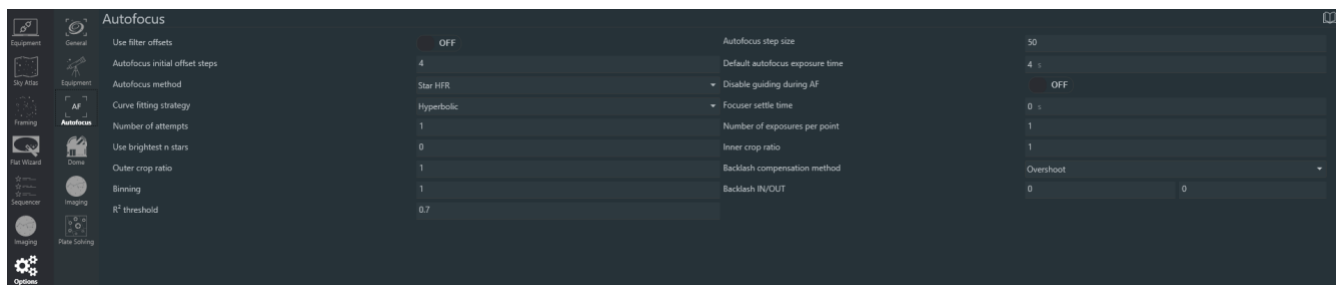

Figure 4-5 Autofocus settings interface in NINA
2. Load the AAF device and proceed with parameter configuration. The interface is shown in Figure 4-5